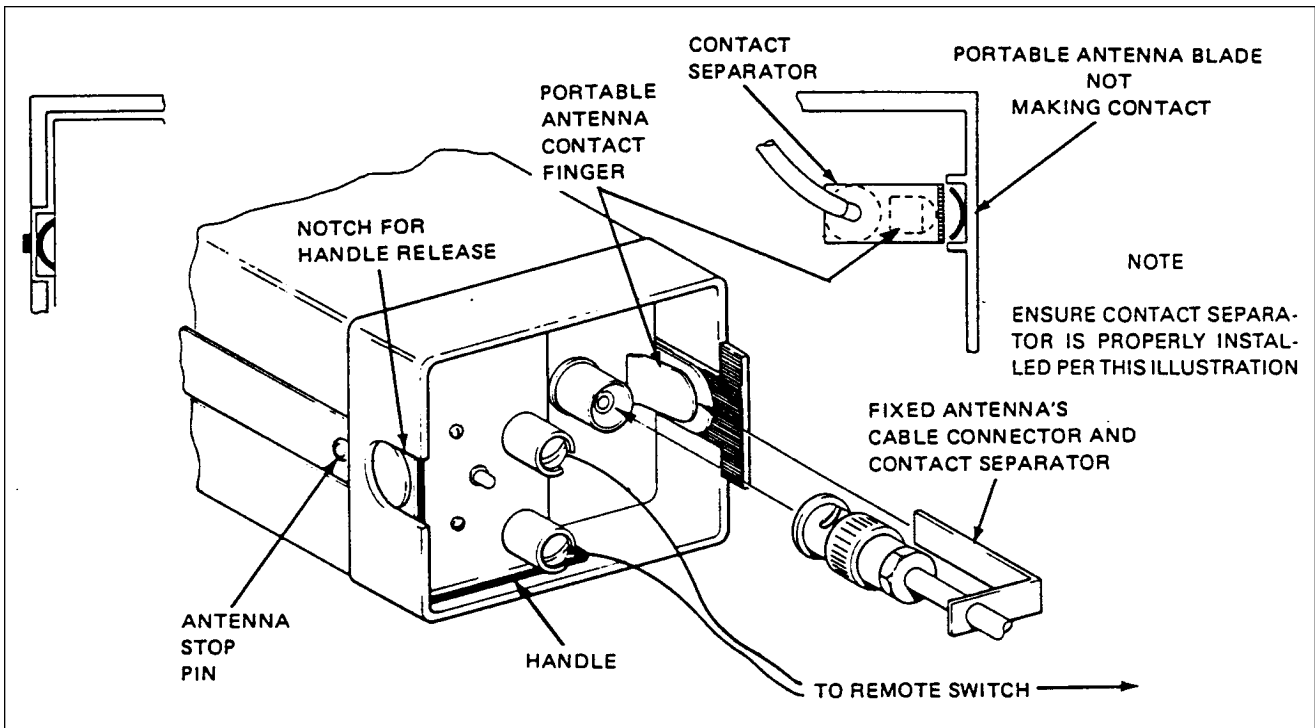

Fig. 23-5. ELT Using Fixed Aircraft Antenna (Narco)
12. Connect antenna coaxial cable to elt and ensure that contact separator is inserted between antenna contact finger and portable antenna. (Refer to figure 23-5.)